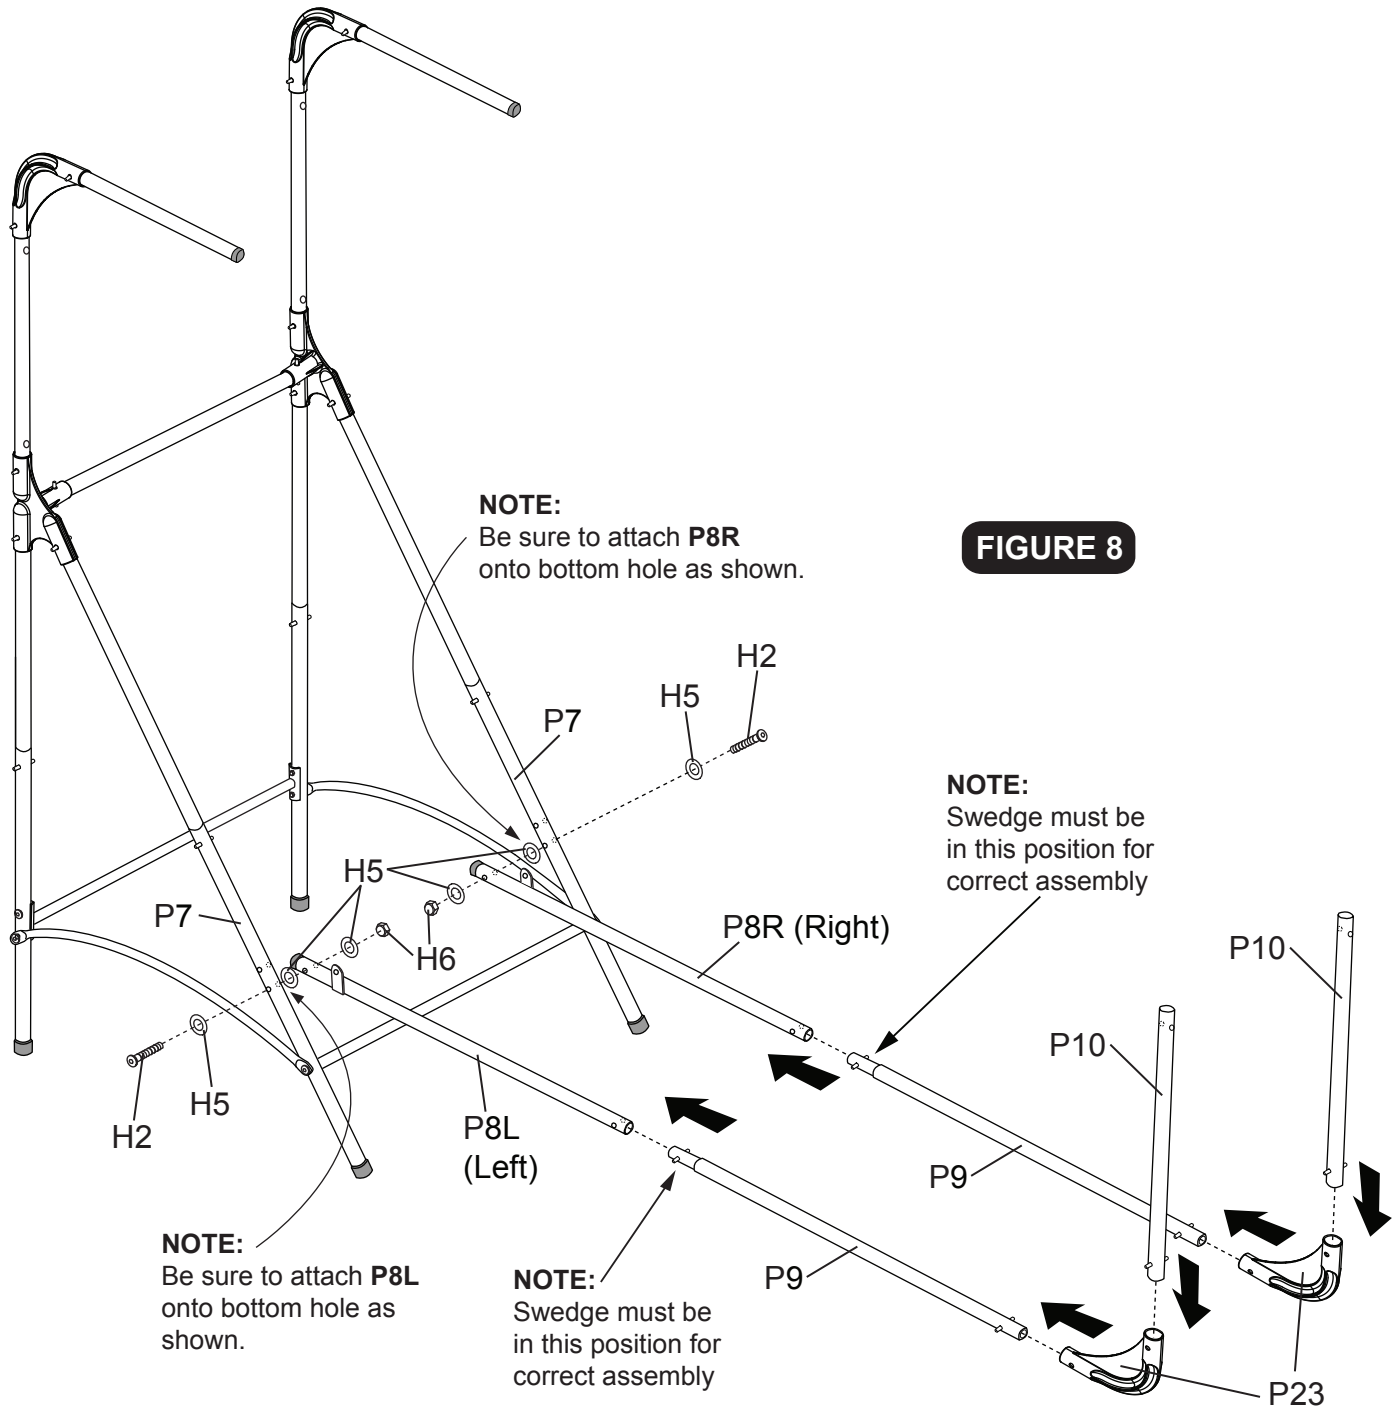

FIGURE 8
16. Install **P8L (Left)** and **P8R (Right)** Connect Tubes to **P7** Tubes using **H2** Allen Head Bolts, **H5** Flat Washers and **H6** Lock Nuts as shown in **FIGURE 8**.
17. Snap **P9** Base Tube Uprights to **P8L** and **P8R** Connect Tubes using spring locks as shown in **FIGURE 8**.
18. Snap **P23** L-Joint Plastic Parts to **P9** Base Tubes using spring locks as shown in **FIGURE 8**.
19. Snap **P10** Front Leg Tubes to **P23** L-Joint Plastic Parts using spring locks as shown in **FIGURE 8**.